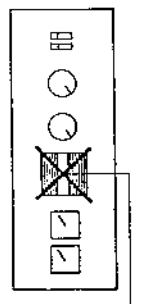

Fig. 1
Remove the clock aperture blanking plate (1) (fig. 1) by squeezing the two lugs on the rear of the plate together and push the plate out.